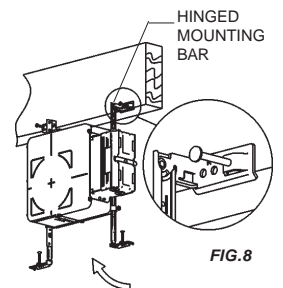

FIG.8
1. Line up bottom edge of hinged mounting bar with the bottom of joist and fasten in place. (Fig.8)